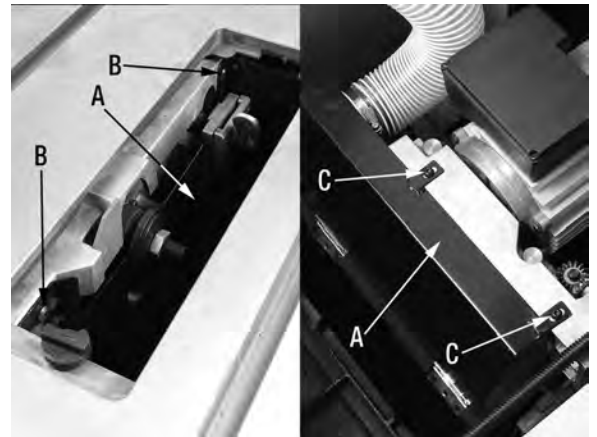
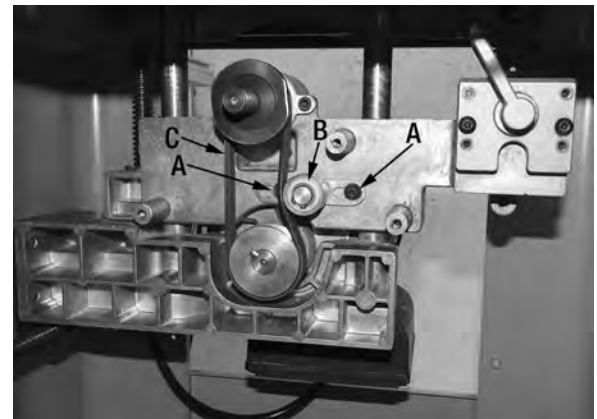

FIGURE 44
FIGURE 45
To remove the ribbed belt (C) Fig.45, first remove table insert, blade guard and riving knife assembly and the blade from the saw as shown and follow the following instructions:
- 2) To access the ribbed belt (C) Fig.45, remove the dust shroud (A) Fig.44 by removing 4 round allen head screws (B & C) using a hex. key. There are 2 round allen head screws (B) accessible from the top opening, the other 2 round allen head screws (C) are accessible from inside the cabinet.
- 3) The ribbed belt (C) Fig.45 is tensioned by a tensioner (B). Loosen both round head allen screws (A), move tensioner (B) to the right to release tension, and remove the ribbed belt (C) from motor pulley and blade arbor.
- 4) Install new ribbed belt, once installed, tension the belt by moving the tensioner (B) up against the belt, tighten both round head allen screws (A).
- 5) Reinstall dust shroud (A) Fig.44.